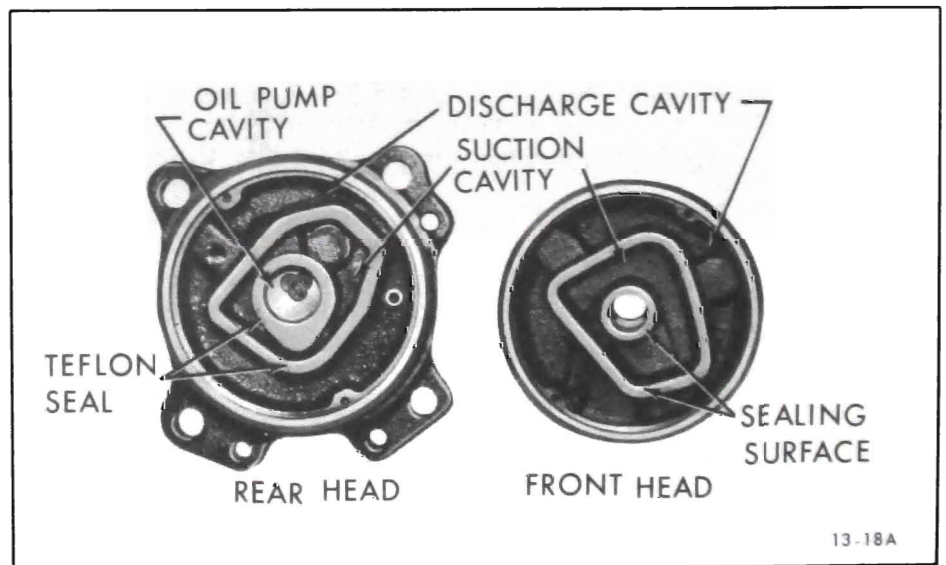

Figure 13-29 Compressor Front and Rear Heads
2. Front and Rear Heads - The front and rear heads (Figure 13-29) serve